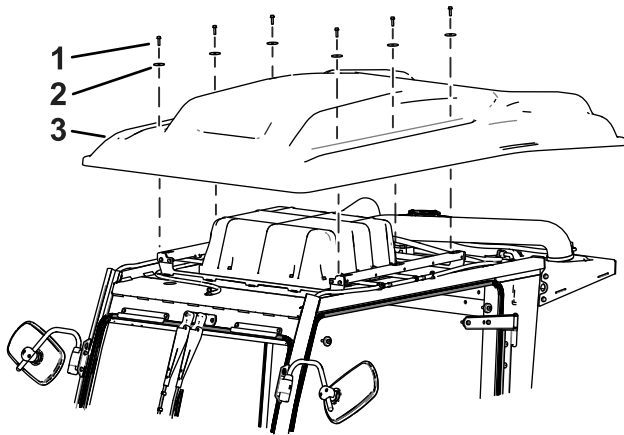

Figure 11
2. Remove the cab roof as shown in Figure 11.
21. Install the cab roof (Figure 11).
3. Install the side panels previously removed (Figure 11).